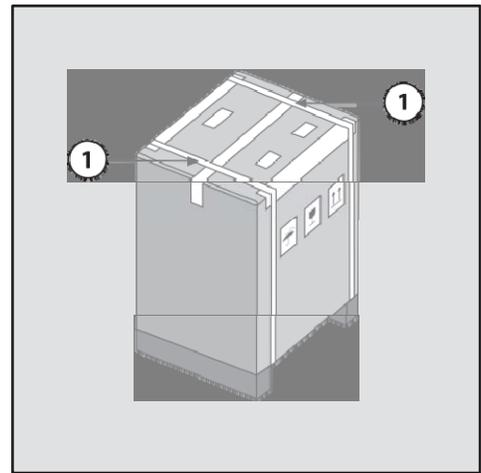

Fig 1.5: Cut plastic straps.
1. Cut the plastic straps using a pair of scissors (see Fig. 1.5).